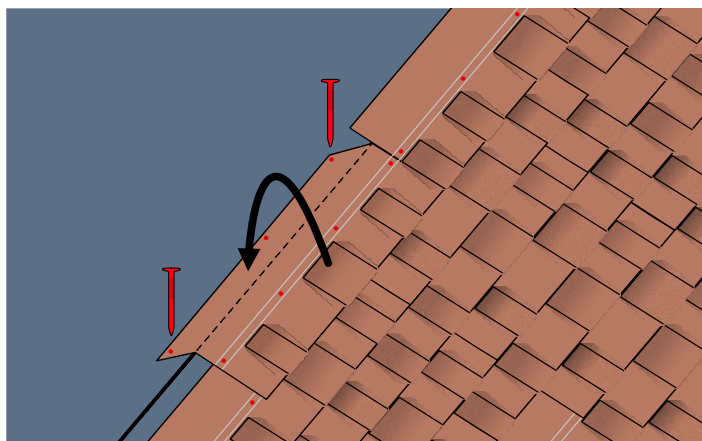

Fig. 9 - Shingles installation at the ridge
- The last row of bituminous shingles must protrude above the ridge line; the excess part will be folded over the ridge line and must be fixed with a minimum of two nails - Fig. 9.